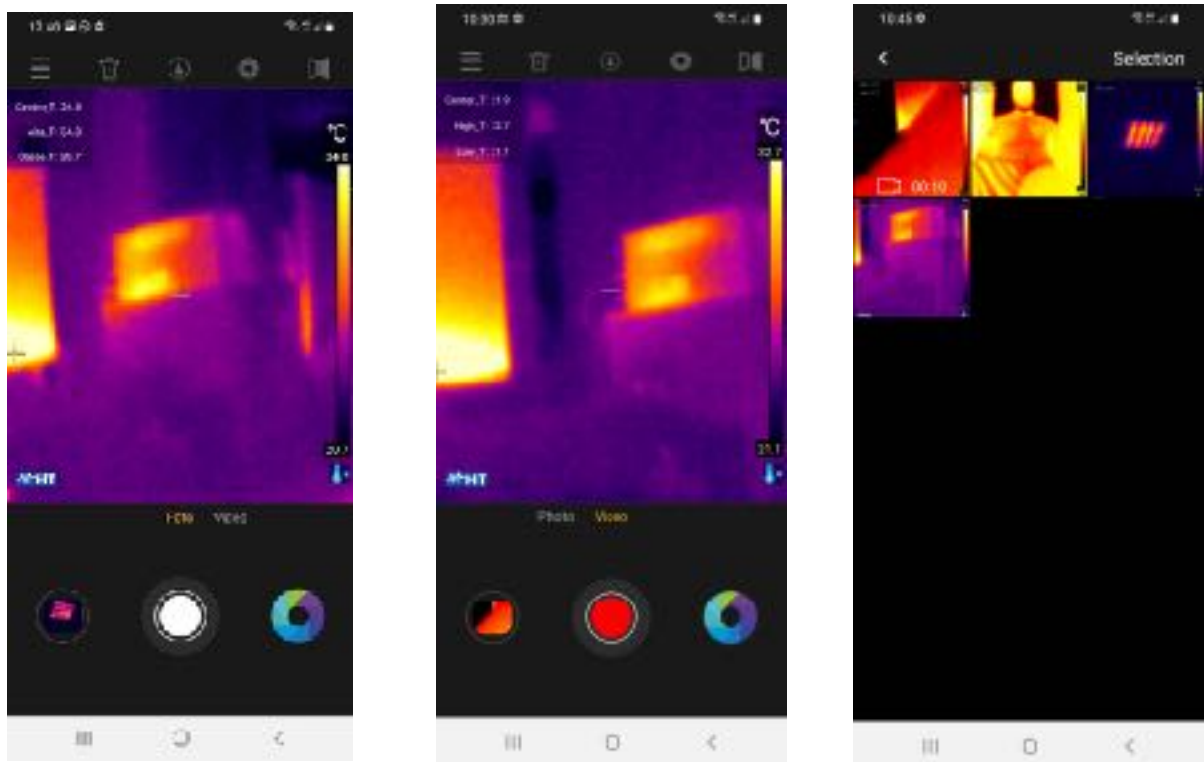

Fig. 9: Saving images and videos
1. Tap the white center icon (see Fig. 3 – part 17) to save the image on the display. The message "Saved photo" is shown for a moment and the corresponding snapshot is shown in the icon at the bottom left (see Fig. 3 – part 15), as shown in Fig. 9 – left side
4. Tap the icon at the bottom left (see Fig. 3 – part 15) to access the Gallery of saved images and videos (see Fig. 9 – right side).